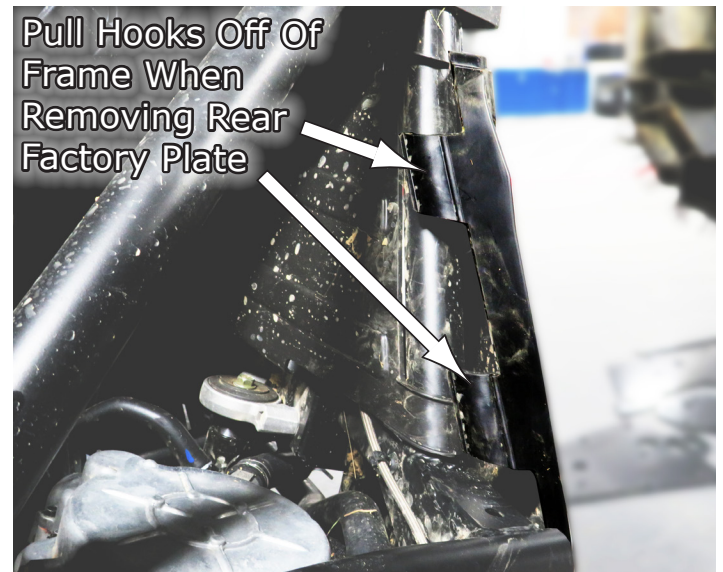

Fig.7
7. When removing the Rear Plate, there are two hook clips that catch the frame towards the rear of that plate. See **Fig.7**. Same for both sides.